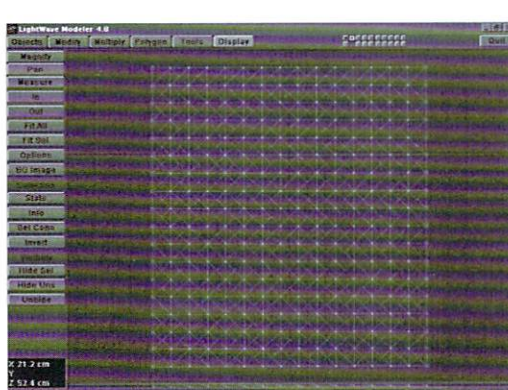

Figure 11: A different view of the highlighted points.
- Press the (a) key. Take a look at Figure 11 to get an idea of what we're doing.